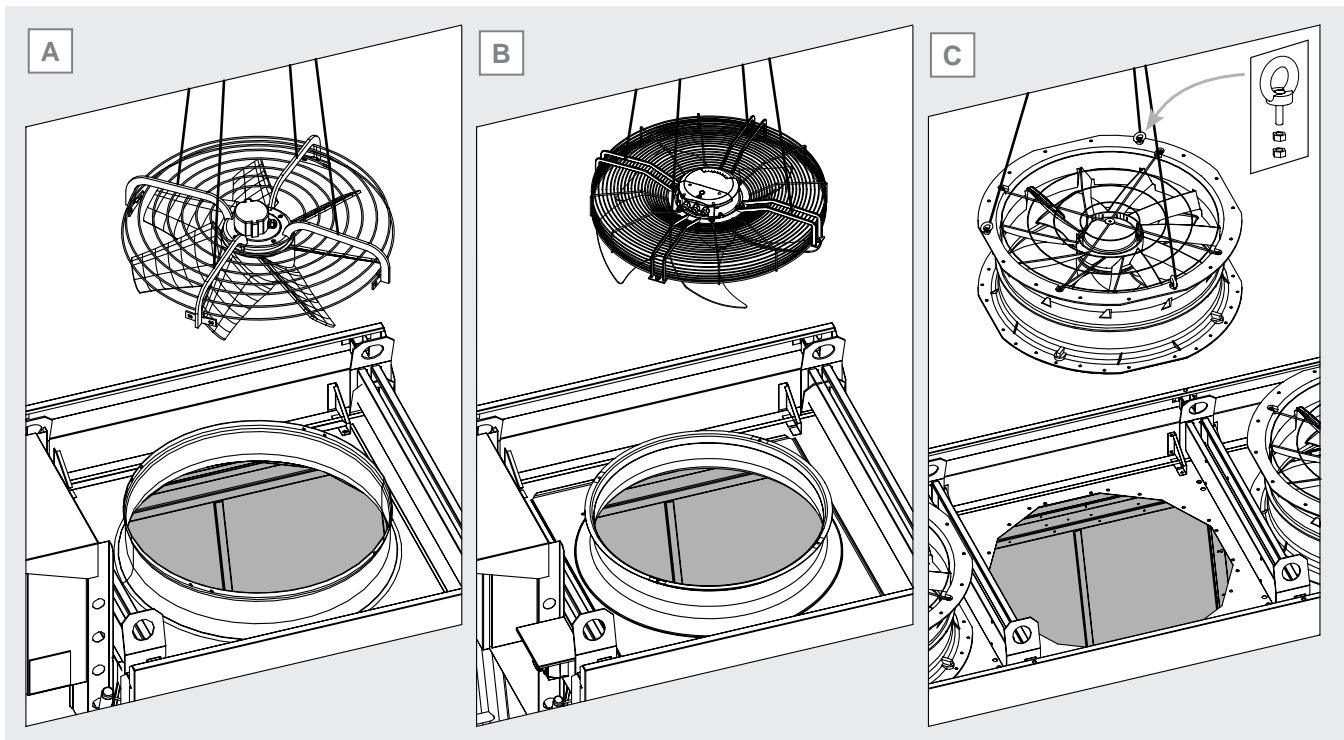

Figure 37
- radial and planar attachment motorfan: attach hooks or lifting straps to the arms of the motorfan grille. See Figure 37 A and B.
- motorfan with integral fan shroud: attach min. 3 lifting eyebolts with nut and lock nut to the top flange of the motorfan. Lifting eyebolts should be equally spaced (e.g., 120° if no. 3 eyebolts). Attach hooks or bands to the lifting eyebolts. See Figure 37 C.